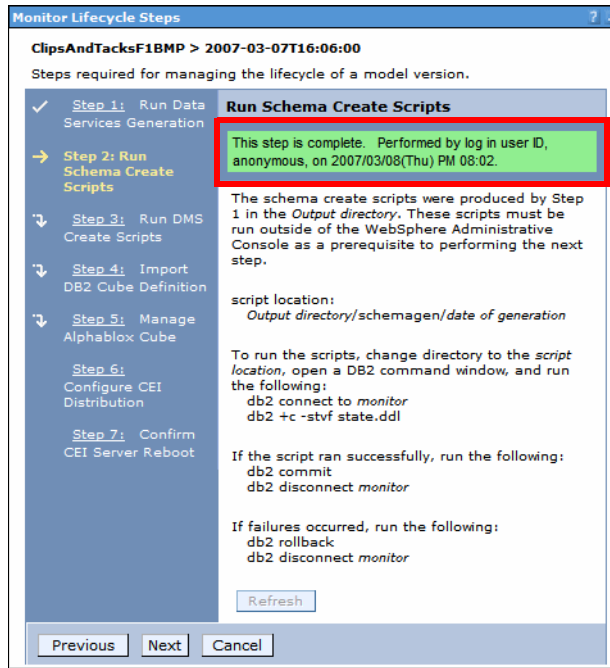

Figure 12-79 Step 2: Run Schema Create Scripts completed
- ▶ Click *Next* (Figure 12-79).